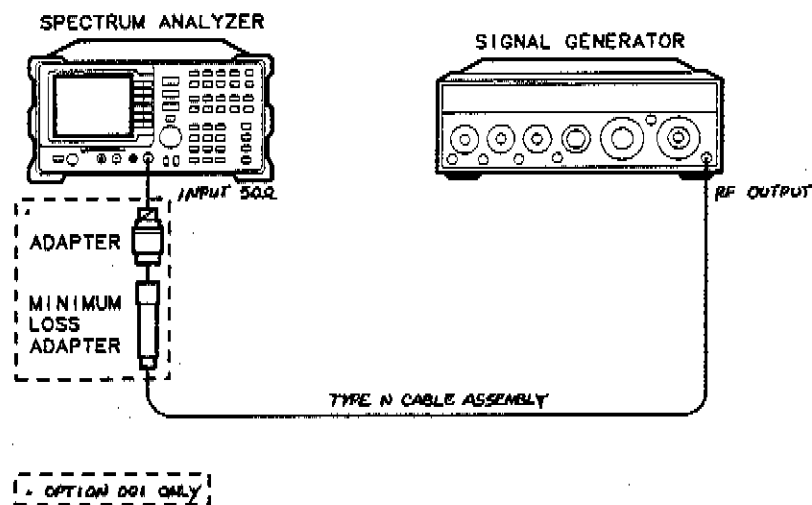

Figure 1-4. Noise Sidebands Test Setup
- Connect the equipment as shown in Figure 1-4.